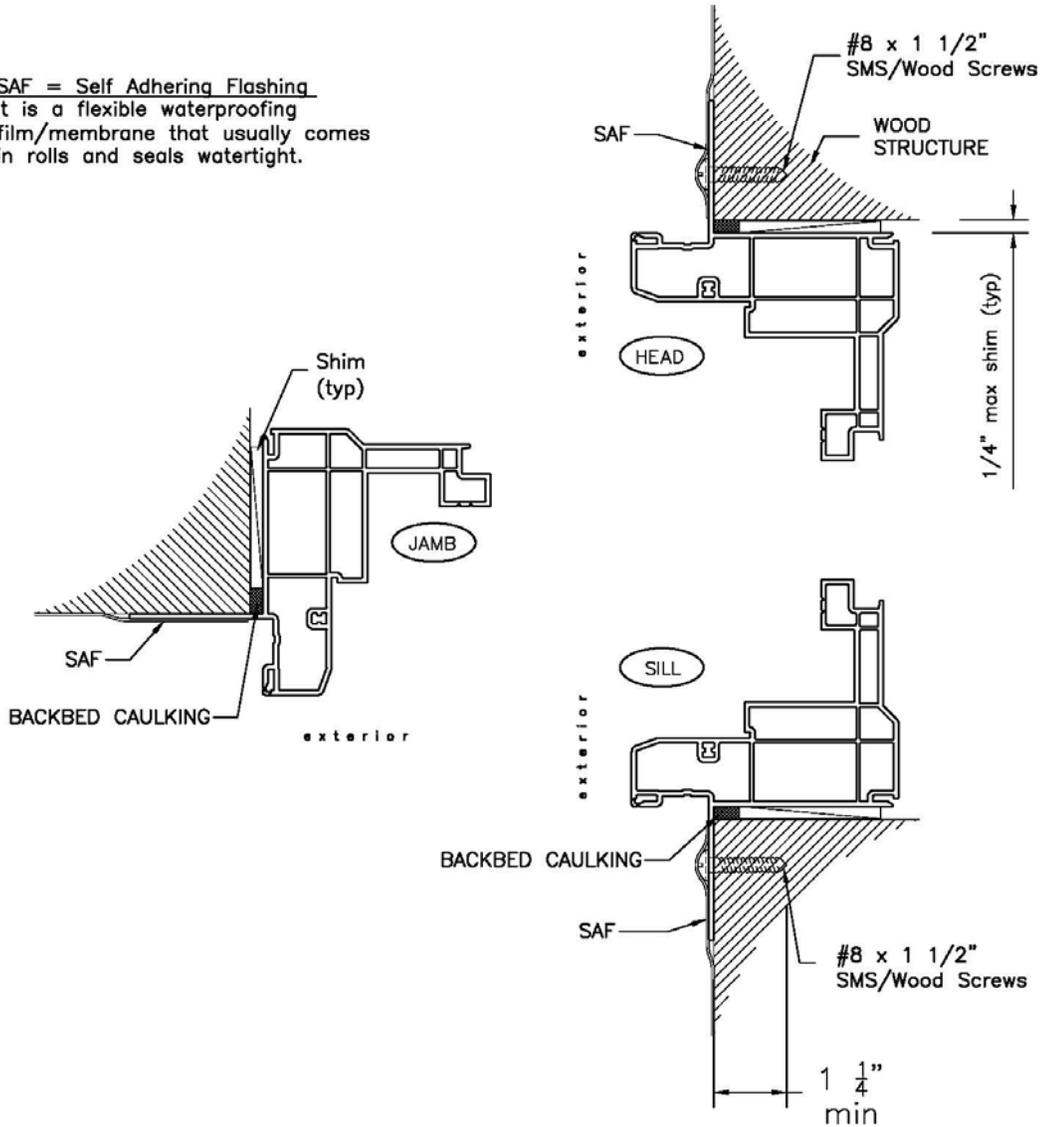

Figure 9: Installation type "D" using Fin Frame
5. Secure window using installation screws as selected from the approval documents for your specific application (see figure 9). Shim window to main structure at every installation screw location (shim space should not exceed 1/4"). You can secure the window with a few screws at first to make sure window operates correctly and is plumb, level and square. **Caution: Any window, which is forced into an opening and racked or twisted, can eventually cause glass breakage.**